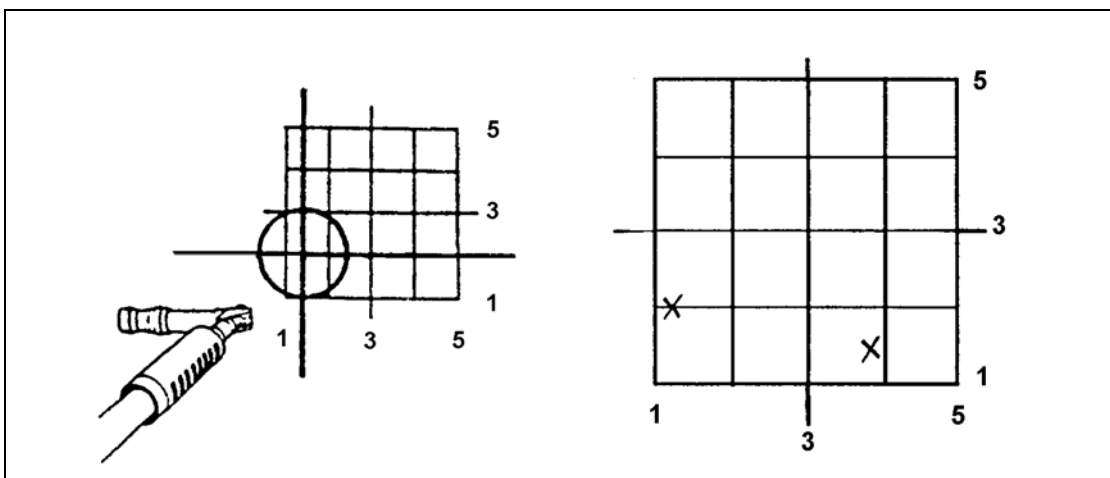

Figure B-21. Kit left aiming point.
(8) Rotate the kit until the telescope eyepiece faces left.
(9) Mark the left aiming point on scoring grid 1 (Figure B-21, page B-16). Taking right and left aiming points is like using a shot group to zero a weapon.
(10) To determine the middle of the two aiming points, so you can estimate where the gun is aiming, lay the gun on the estimated center of the panel.